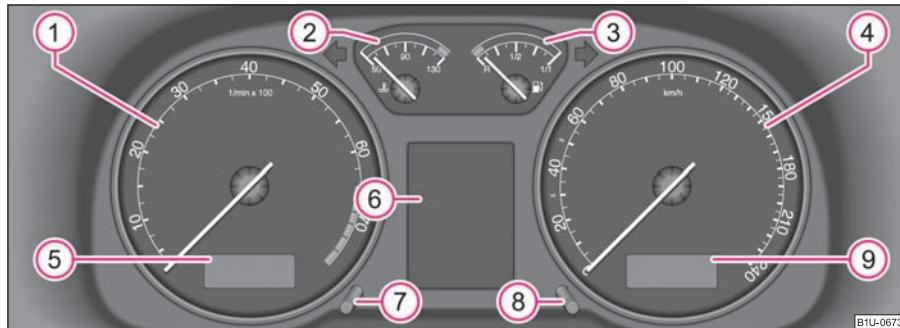

Fig. 18 Instrument cluster
The start of the red zone in the revolutions counter ① ⇒ fig. 18 indicates the maximum permissible engine speed for all gears for an engine which has been run in
The coolant temperature gauge ② ⇒ fig. 18 operates only when the ignition is switched on.
The fuel gauge  ⇒ page 16, fig. 18 only operates when the ignition is switched on.
⇒ page 16, fig. 18:
A clock-set button (7) is installed on the bottom left beside the speedometer for adjusting the clock ⇒ page 16, fig. 18.